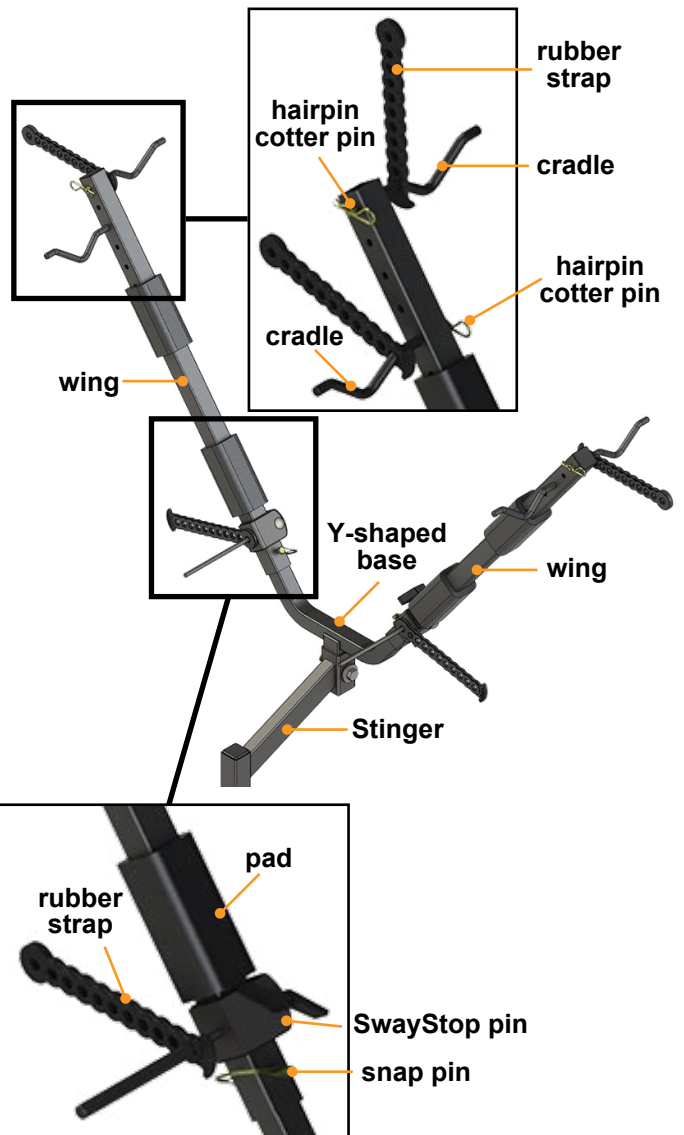

Fig.5
2. Slide one SwayStop™ pin onto each wing starting from the bottom so the SwayStop is between the snap pin and the pad (Fig.5). The pins should point in opposite directions.
3. Attach wings to Y-shaped base using two snap pins (Fig.5).
5. Attach four cradles, including two on each wing (Fig.5). Each wing should have one cradle facing forward and one cradle facing backward.